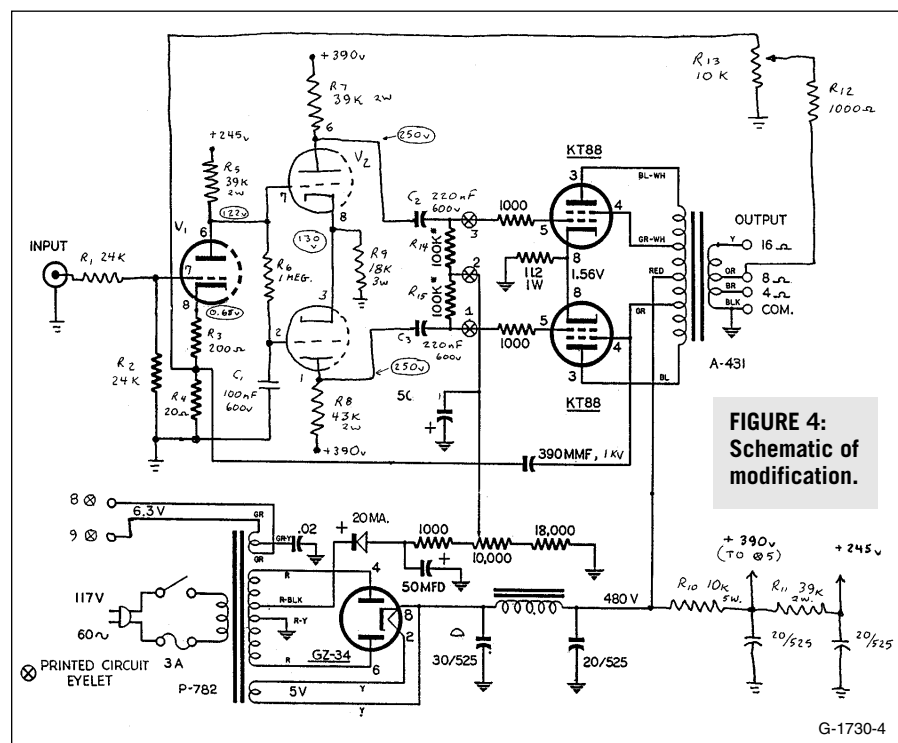

FIGURE 4: Schematic of modification.
9. Remove the original screen feedback wire that went between pin #4 of the lower KT88 and eyelet #4. Solder the 390pF mica capacitor to this same pin, #4, of the KT-88. The solid green screen tap lead from the output transformer goes to this pin also. Splice it to the other side of the 390pF mica and heat-shrink the joint (*Fig. 4*). Eliminate the 680 Ω resistor between the 16 Ω tap and the COM tap, and leave the COM tap grounded.
The new circuit has plenty of gain; R1 and R2 form a voltage divider (*Fig. 4*). *Table 2* shows the parts list. I did this so full power could be obtained with 3V P-P input. I shrink-wrapped R1 into the lead coming right off the RCA jack.